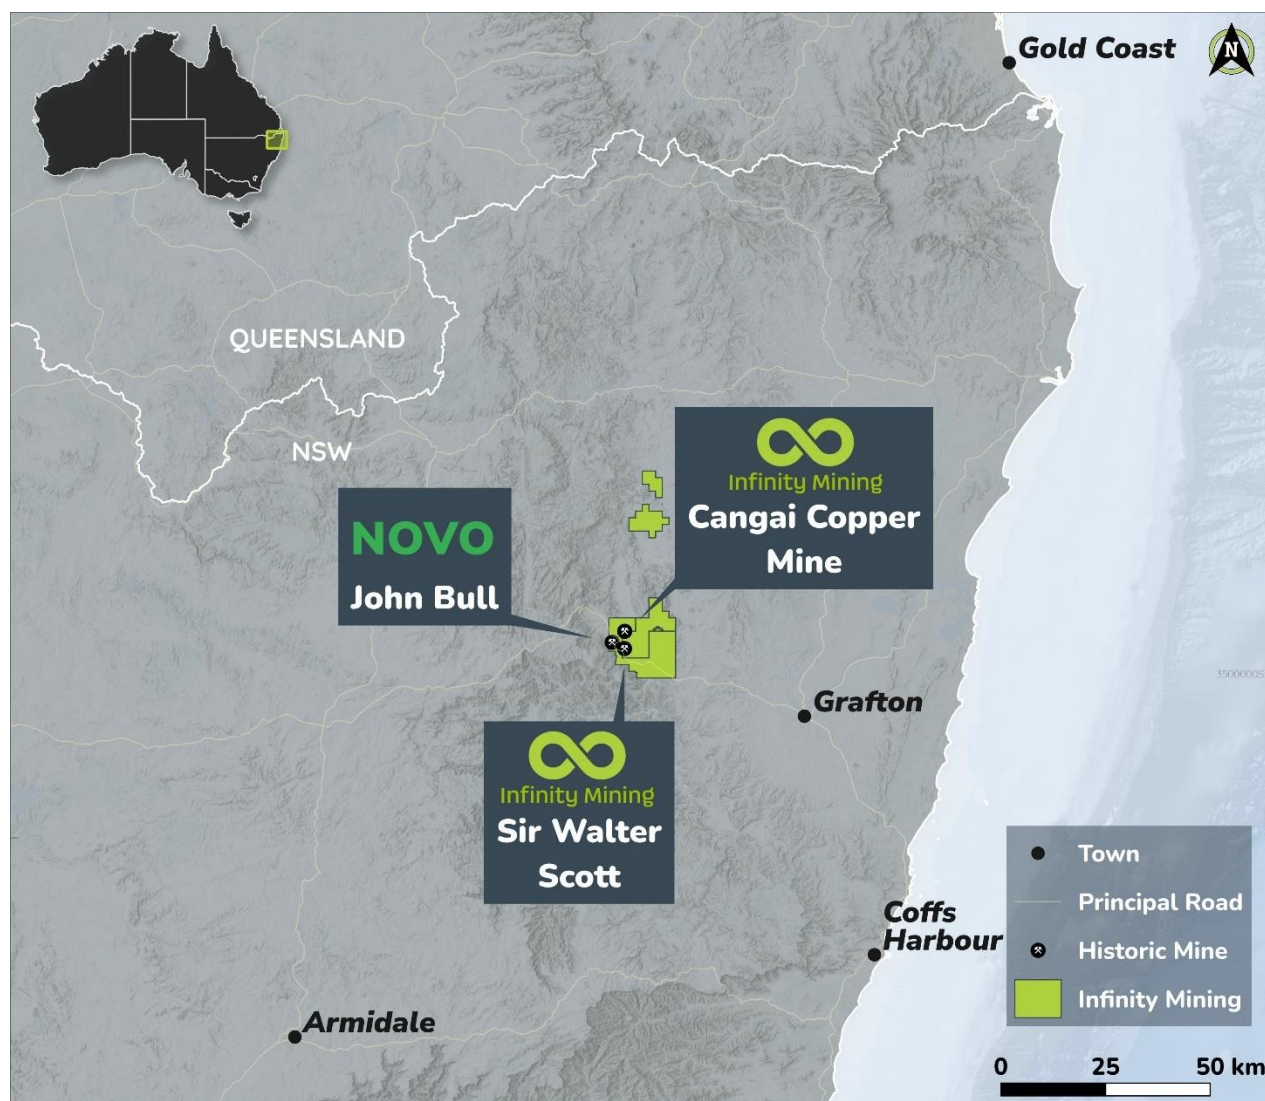
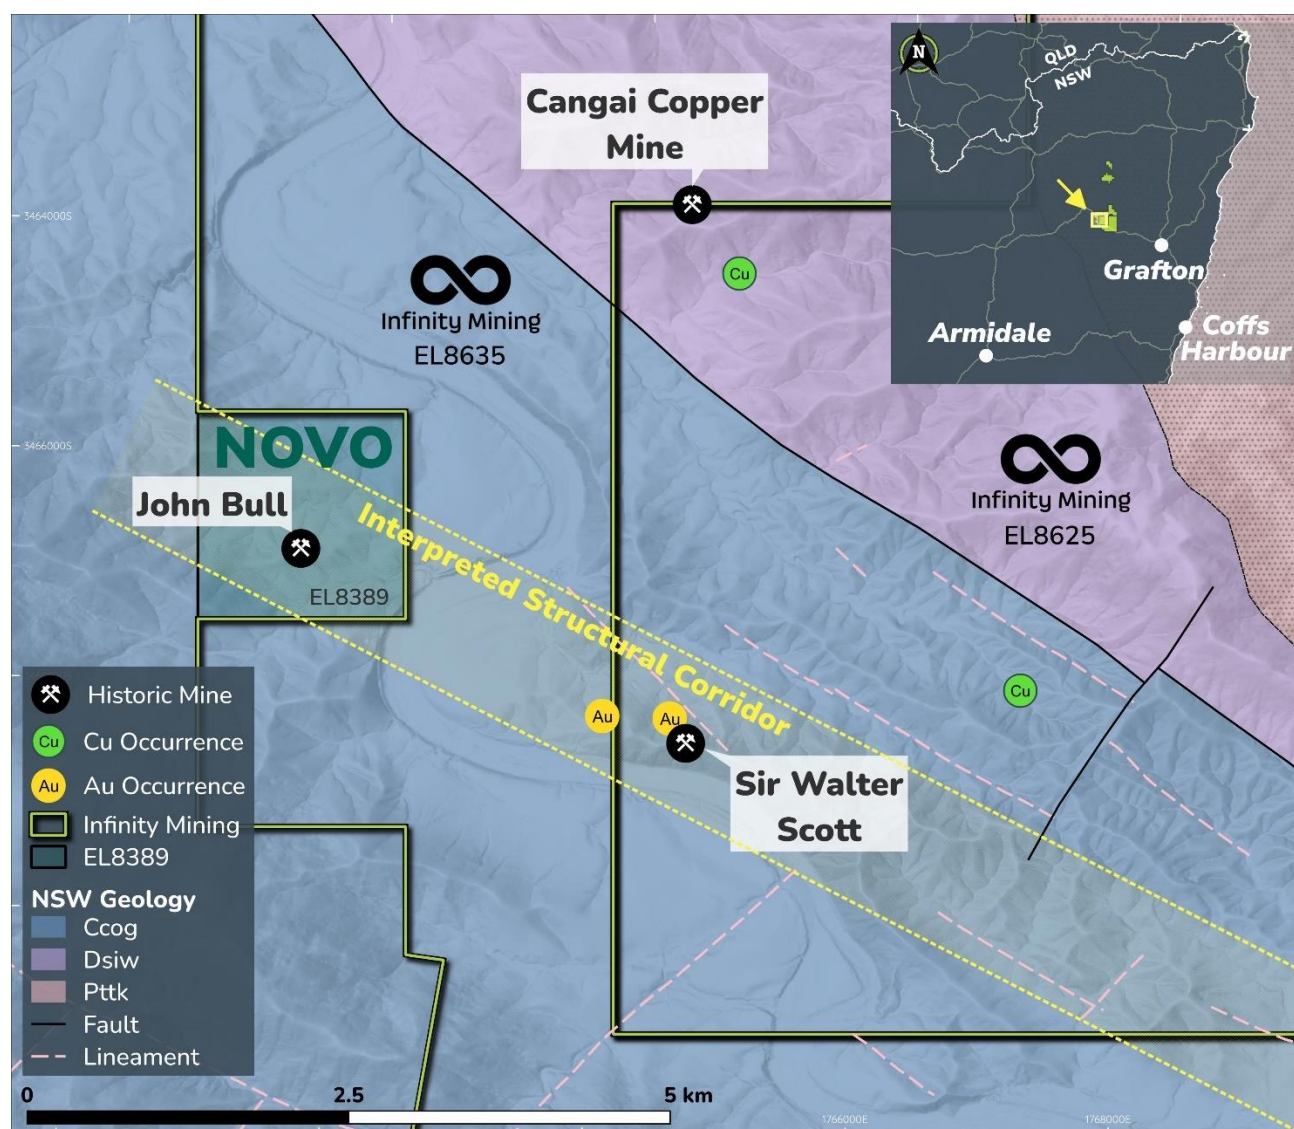
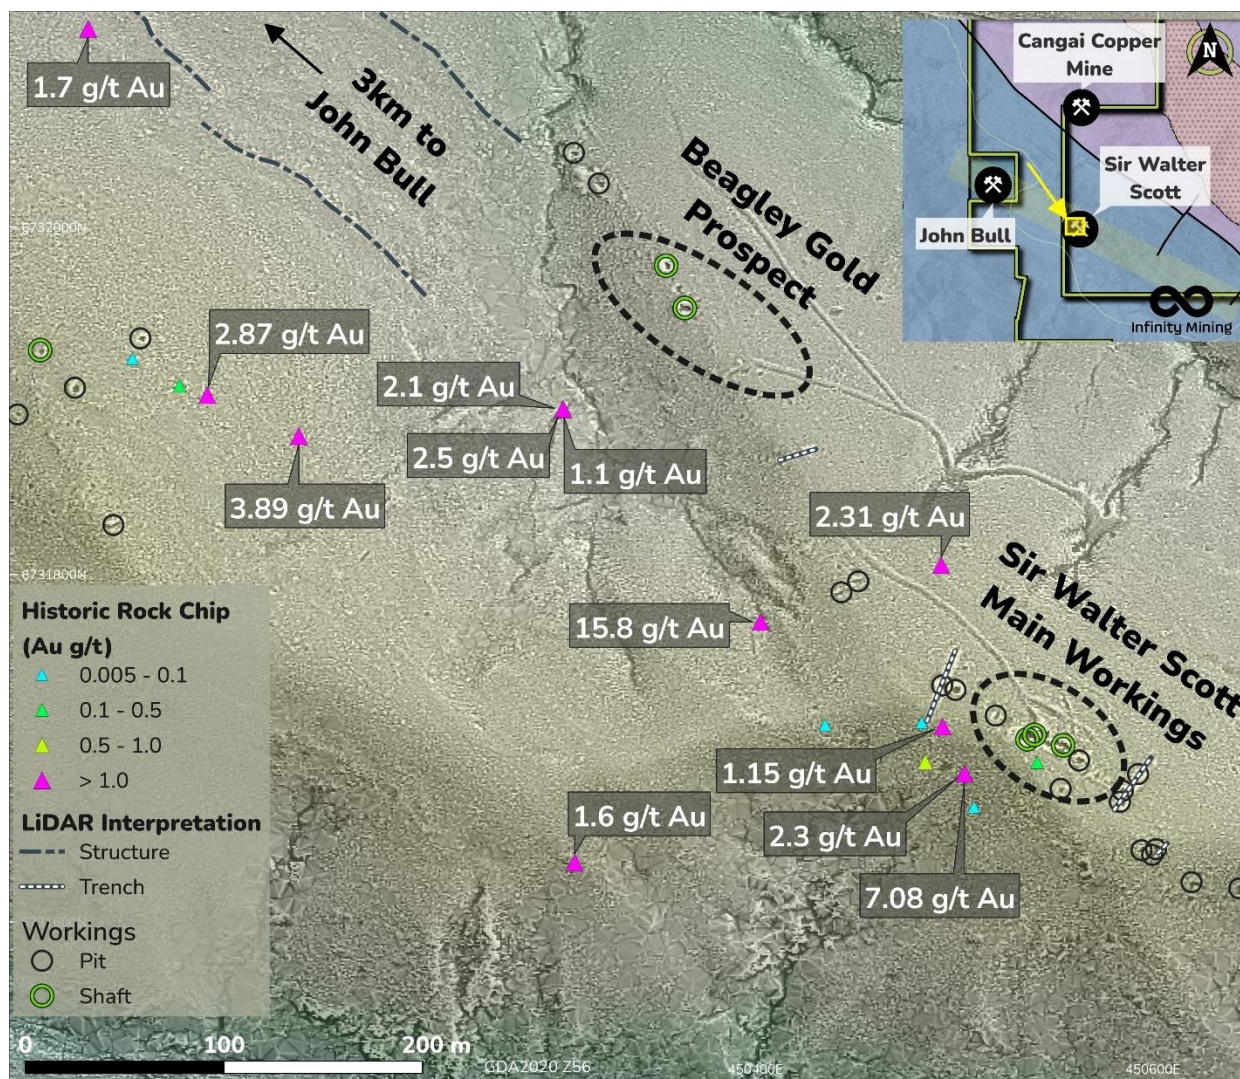

Figure 1: Location of the Cangai Project, northern NSW
Figure 2: Historic Mines, Mineral Occurrences and NSW Geology within the Cangai Project, NSW.
Figure 3: Enhanced LiDAR imagery with interpretation and historical rock chip assays (grams per tonne gold).
**Infinity Mining Limited** (ASX: IMI) (“Infinity” or “the Company”) is pleased to announce that a new gold target area has been defined at the Cangai Project in northern NSW on ELs 8625 and 8635 as a result of on-going re-interpretation work and historical data compilation, see **Figure 1**. The new gold target area includes the historical Sir Walter Scott Gold Mine, which lies ~3km south of the Cangai Copper Mine (see **Figure 2**). This gold target lies ~3 km along strike to the SE of the John Bull Gold Project, owned by Novo Resources (ASX: NVO) and TechGen Metals (ASX: TG1).4
The Sir Walter Scott Gold prospect is located ~3 km south of the Cangai Copper Mine on Infinity's ELs 8625 and 8635 (see **Figure 2**). Sir Walter Scott was discovered in 1872 and during the late 1800s, it produced 1,790 oz Au (55.68 kg) from 2,203 tonnes of ore at an average grade of ~25 g/t Au, as quoted by McQueen (University of Canberra)1. Gold is reported to occur in quartz-sulphide veins, hosted in steeply dipping chloritic shear zones, within the Carboniferous Gundahl Complex (greywackes, metasediments, cherts with minor limestone and basalts).
During the 1980s, Little River Goldfields and Key Resources undertook exploration work at the Sir Walter Scott Gold prospect, including rock chip sampling of the old workings, waste dumps and nearby outcrops. The historical rock chip sampling programs returned several high-grade gold assays up to 15.8 g/t Au along a NW-trending zone, approximately 500 m along strike (see **Figure 3**). The rock chip details are included in JORC Table 1 in **Appendix 1**. A table of rock chip sample assay details is included in **Appendix 2**. A total of 12 rock chip assays >1 g/t Au are reported around Sir Walter Scott from a total of 32 samples collected.
The LiDAR interpretation has mapped out a NW-trending cluster of shafts, pits and trenches over 500m+ strike length along a NW-trending structure, including the Sir Walter Scott and Beagley Gold prospects (see **Figure 3**). The NW-trending structures at Sir Walter Scott continue to the NW towards John Bull Gold prospect (Novo Resources), within a broad NW-trending structural corridor (see **Figure 2**).
The John Bull Gold Project (Novo Resources), lies ~ 3 km to the NW of the Sir Walter Scott gold prospect within the interpreted NW-trending structural corridor that links the two gold prospects, see **Figure 2**.
| Balanced reporting   | <ul style="list-style-type: none"> <li>Where comprehensive reporting of all Exploration Results is not practicable, representative reporting of both low and high grades and/or widths should be practiced to avoid misleading reporting of Exploration Results.</li> </ul>   | <ul style="list-style-type: none"> <li>Only rock chip samples <math>\geq 1</math> g/t Au are shown on Figure 3.</li> <li>Lower-grade samples are not included on the diagrams but are included in the assay table in the Appendices.</li> </ul> |